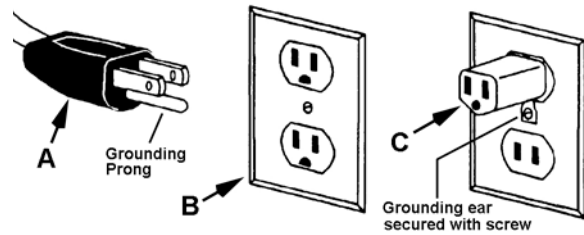

Figure 1
The JWBS-16B Band Saw comes equipped with a *plug* that looks like A, Fig. 1. and is used in an *outlet* that looks like B, Fig. 1. A *temporary adapter* with a *grounding ear* secured with a *screw* (C, Fig. 1) may be used to connect this plug to a two-pole receptacle if a properly grounded outlet is not available. The temporary adapter should only be used until a properly grounded outlet can be installed by a qualified electrician. **This adapter is not applicable in**
**Canada.** The green colored *grounding ear*, lug, or tab, extending from the adapter, must be connected to a permanent ground such as a properly grounded outlet box, as shown in C, Fig. 1.